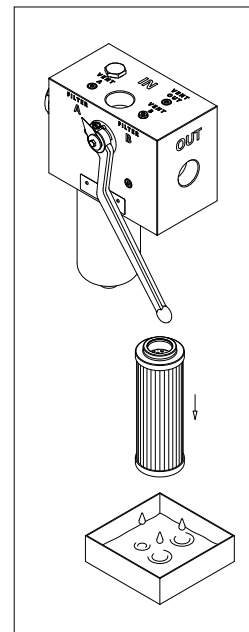

fig. 28
- (Fig. 28) Pull the filter element out